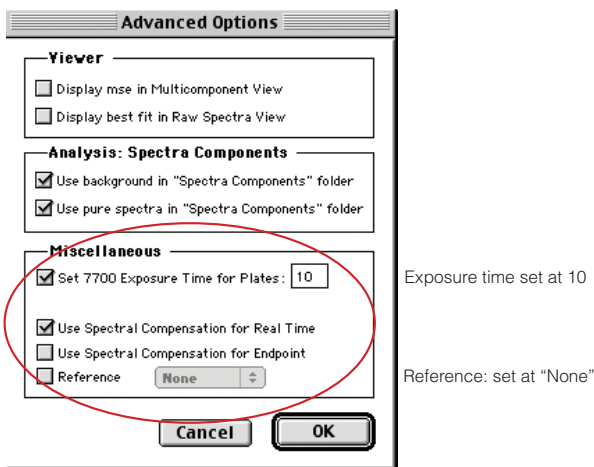

Figure 1. Setting the instrument exposure time and turning off the ROX reference standard.
- b. Under the Instrument menu, select “Diagnostics” then “Advanced Options” (Figure 1).